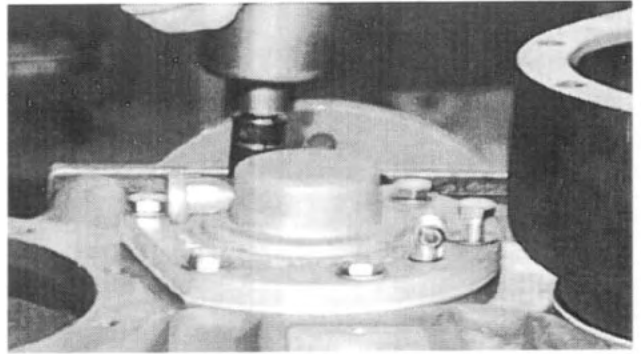

Fig. 60
3. Install the intermediate front cap to the transfer case. Tighten, but do not torque the bolts at this time. *See Fig. 60.*